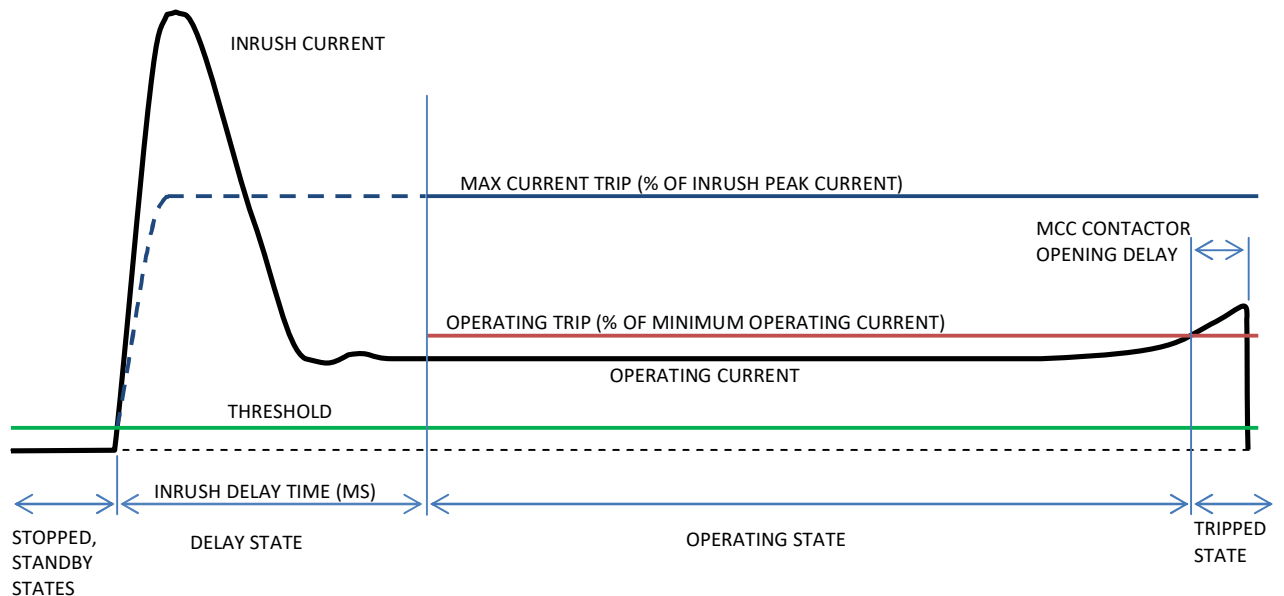

Figure 1: Typical Test Sequence
- 4.9 Figure 1 shows a hypothetical current trace (not to scale) for a run. The relay progresses through various states according to the sensed current.